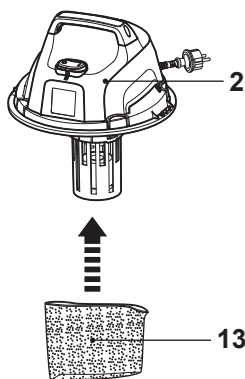

Fig. 9
**NOTE:** Always ensure the dust filter (14) and dust bag (15) are NOT assembled before wet vacuuming.
- > Slide the foam sleeve (13) onto the motor unit (2) (Fig. 9). Ensure it sits properly in position.